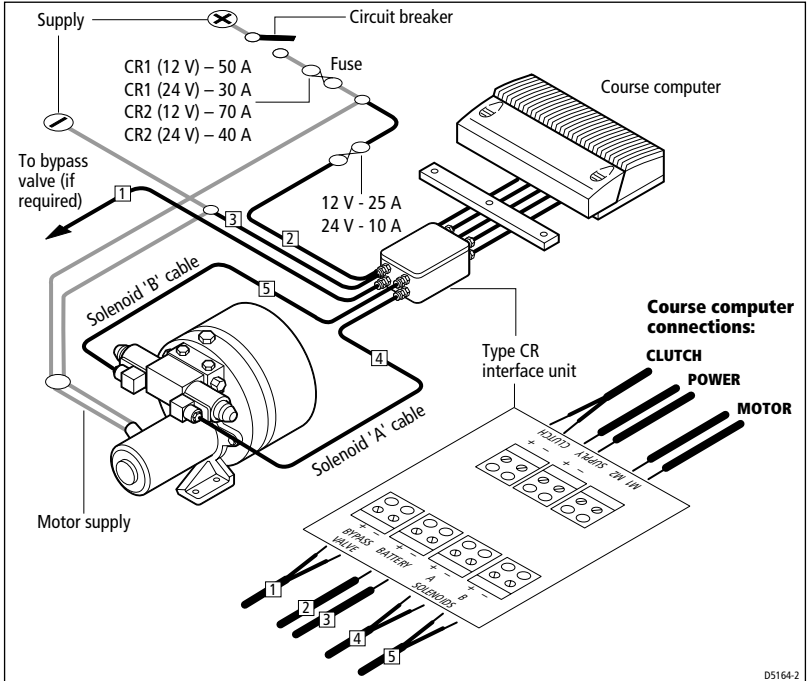

Figure 7: CR pump connections to a Type 100/300 course computer
- connect the solenoid valves to the CR interface as shown in *Figure 7*, using at least 16 AWG (1.5 mm2) cable.